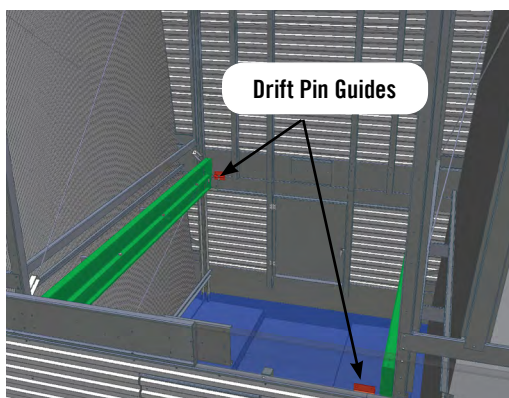

Figure 7. Upper and Lower Assembly - Drift Pin Guides
- Using drift pins in the drift pin guides provided (**Figure 7**), guide the top section on to the bottom section.